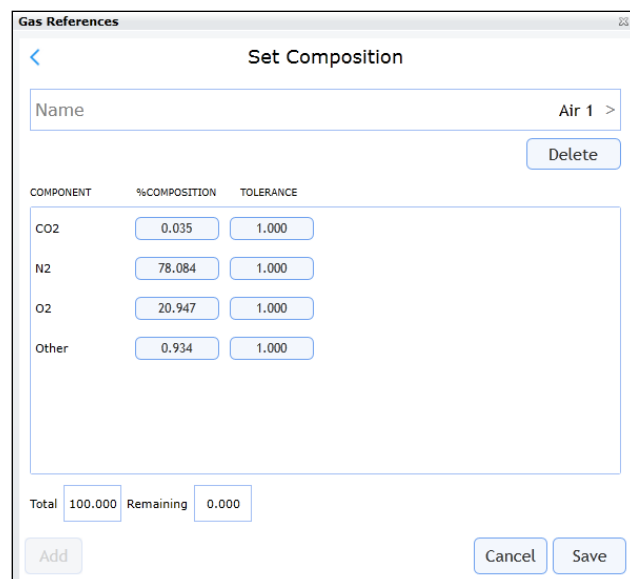

Figure 98. Reference gas composition entry dialog
15. Click the **% Composition** box for each gas in the list and enter the composition values from the new calibration gas cylinder. When this process is completed, make sure that the Total value at the bottom of the dialog is 100 (Figure 98).